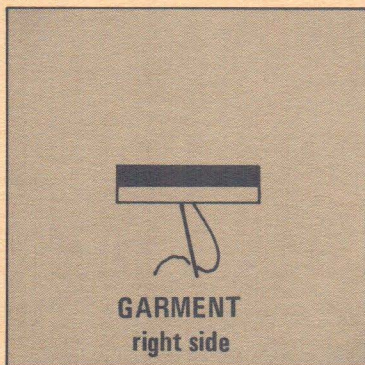

Figure 8
- Hand-baste cord in bias fold, working from right side. Baste on patch as near as possible to garment line. Place cord in other side from the wrong side and continue basting from right side. Catch both corded edges together making sure the buttonhole will lie flat (Fig. 8).